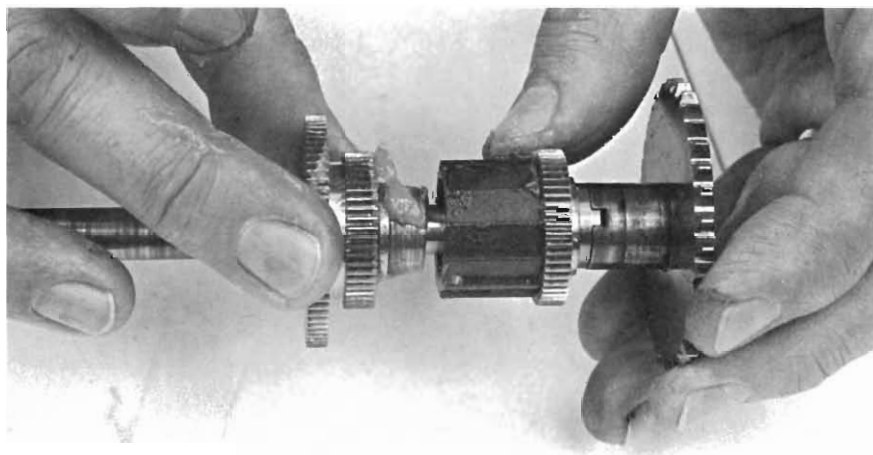

Figure 5-21. Spring Clutch Lubrication (Primary Shaft)
b. Grease each primary clutch and gear assembly as shown in Figure 5-21, using the following steps to grease each assembly:
(1) Work grease into coils of each spring, and install on one half of clutch hub. Note that spring key must be in proper position (Figure 5-21).
(2) Slip plastic clutch sleeve (with ratchet teeth) over spring; mate sleeve cutout to spring key, and pack more grease into end of sleeve.
(3) Coat mating gear hub with grease and twist hub into assembled clutch and spring. As a test of clutch wear, clutch hub should “grab” spring when twisted in one direction, and slip when twisted in other. If clutch slips in both directions, replace hub and attached gear, or worn spring.